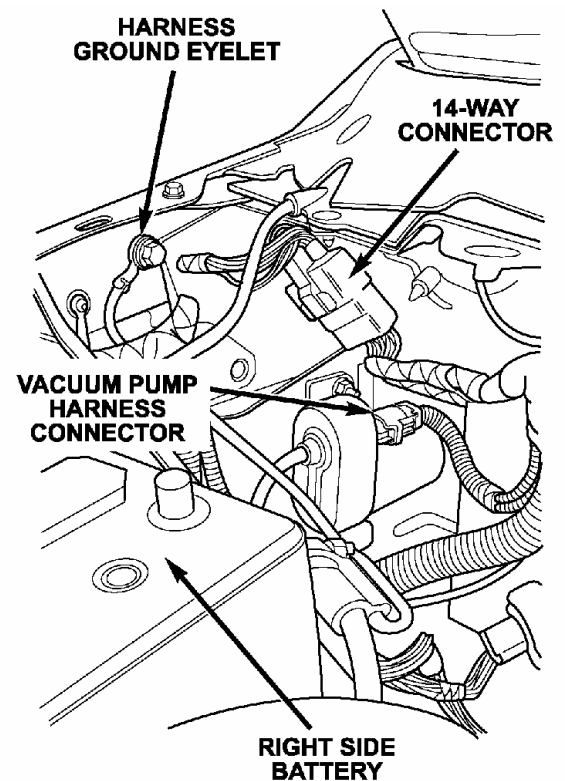

Figure 3
1. Disconnect the 14-way wiring connector at the wiper cowl (Figure 3).
2. Disconnect the vacuum pump harness connector (Figure 3).
3. Disconnect wiring harness ground eyelet at the right fender (Figure 3).
28. Connect wiring harness ground eyelet at the fender (Figure 3).
29. Connect the vacuum pump harness connector (Figure 3).
30. Connect the 14-way connector near the wiper cowl (Figure 3).